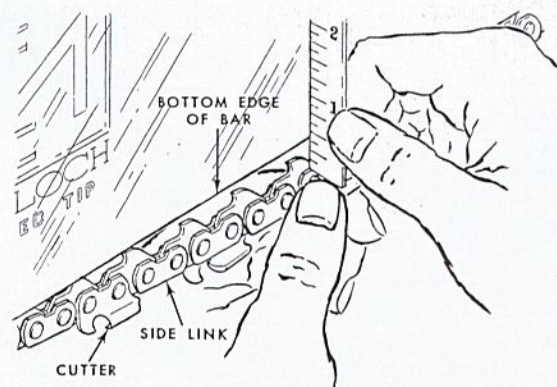

FIGURE 5
8. Turn the chain tension adjustment screw clockwise to tighten the chain. Pull the chain down at the center of the bottom of the bar and continue to tighten the chain until there is between 3/8 and 1/2-inch clearance between the side link or cutter that you are holding and the bottom of the bar. (Figure 5)